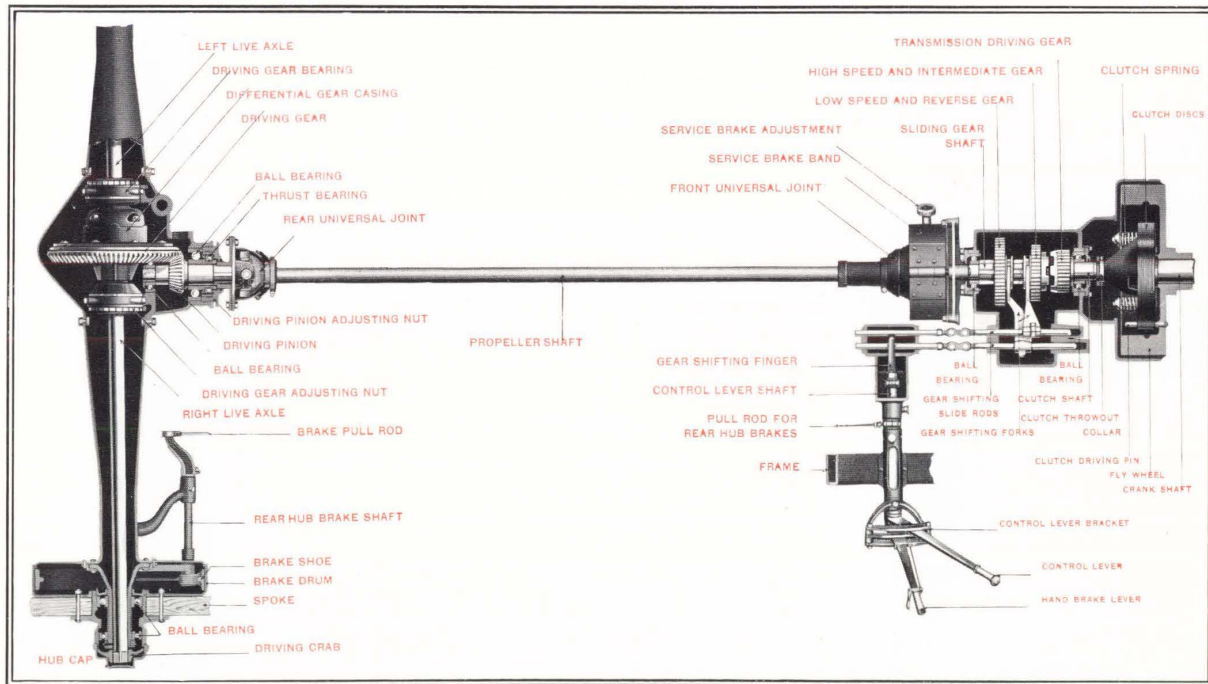

Fig. 11. Power Transmission System of Chalmers "30"
The three forward speeds are obtained by the movements of two gears sliding upon the "sliding gear shaft" (A) and keyed to it (Figs. 11, 13 and 14).
By these movements of the hand lever, forward and back and in and out, one or other of the two "slide rods" (C) is pushed backward or forward (Figs. 11, 12, 14). Attached to these rods are the gear shifting forks which move the sliding gears.
The function of the differential driving gears (Fig. 11) is to allow the two rear wheels to turn at different rates of speed—as in going around corners or over bumps.